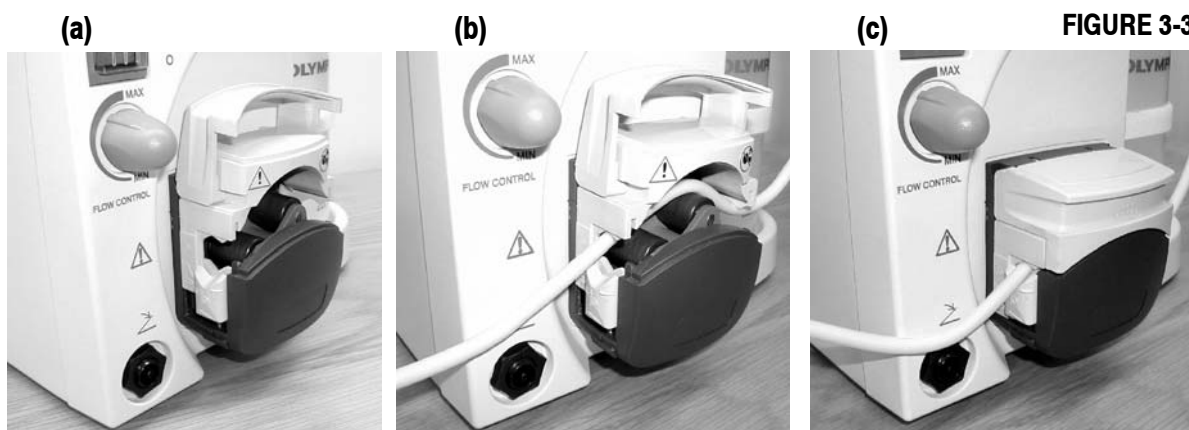

FIGURE 3-3
- 3.6 Referring to Figure 3-3, open the pump cover (a), feed the irrigation tubing around the peristaltic pump rollers (b), then close the cover (c) to secure the tube.